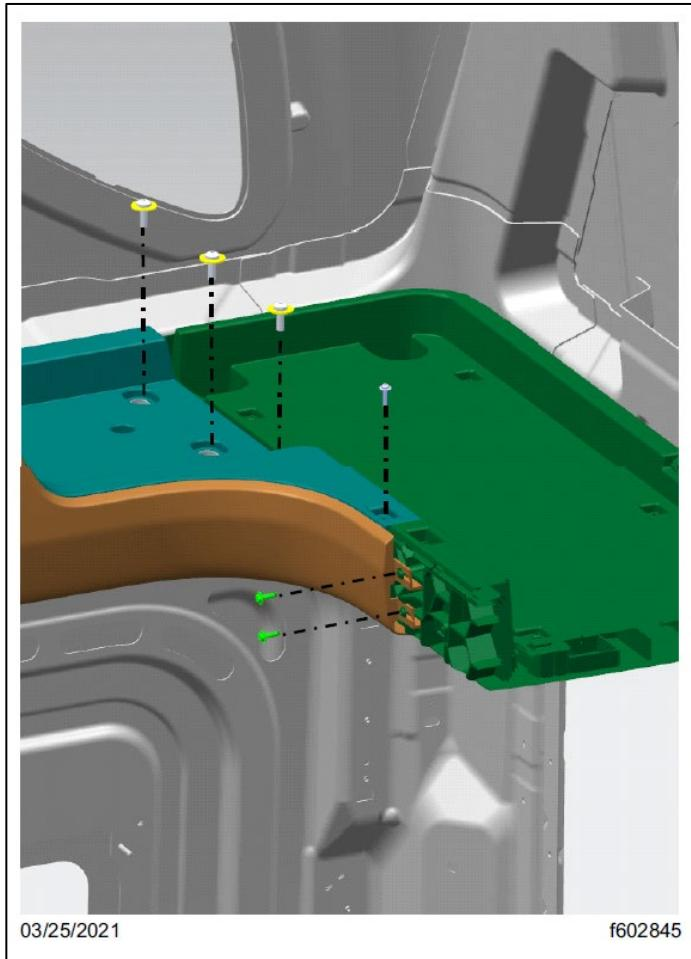

Fig. 41, Fasteners That Attach the Rear-Right Upper Cabinet to the Upper-Rear Shelf
16.3. Install the six fasteners that attach the upper-rear shelf to the rear-right upper cabinet. See Fig. 41. Tighten the fasteners 7 to 9 lbf.ft (9 to 12 N.m).